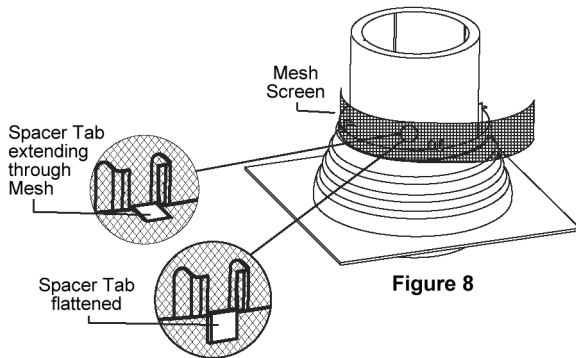

Figure 8
- Place the mesh around the top of the shield by first lifting the spacer tab so it extends outward. Carefully impale the mesh onto the spacer tabs as shown in Figure 8. Trim any excess as appropriate. Once installed, reflaten the spacer tabs to the side of the shield. This will hold the mesh in place.